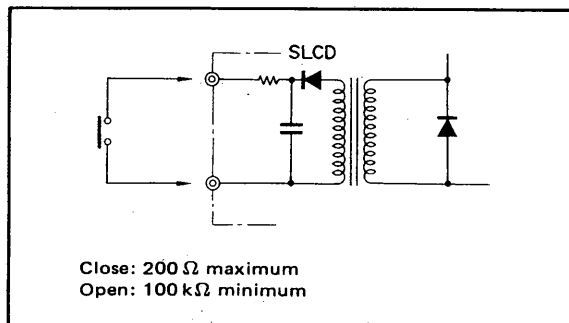
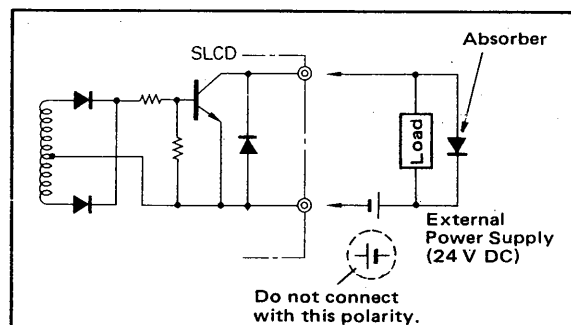

Figure 3-1. External Contact (Status) Input Connections.
Figure 3-3. Surge Absorber Connection.
- (1) Be sure to terminate all cable connections with solderless crimp-on lugs.
- (2) External contact and voltage input must be of proper ratings. (See Figures 3-1 and 3-2.) The excess conductor resistance and the consequent voltage drop must be taken into account.
- (3) When driving remote equipment using transistor contacts, such as fail output, alarm output and status output, make the wiring in accordance with the following instructions.
- When driving a relay or other inductive device, connect a surge absorber (protective diode) in parallel with the load. (See Figure 3-3.)
- When connecting a power supply to an external load, observe the correct polarity (see Figure 3-3).